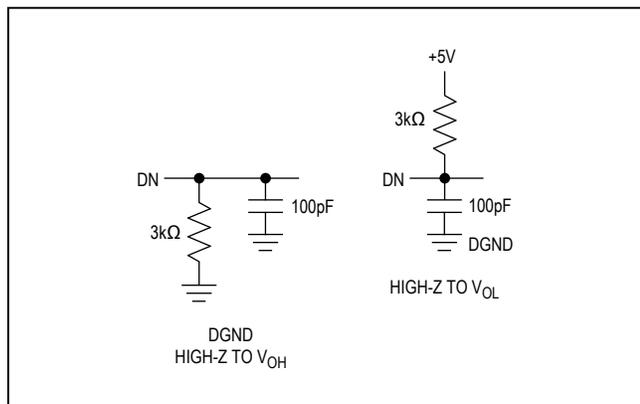

Figure 1. Load Circuits for Data-Access Timing
**TIMING CHARACTERISTICS (Note 3, Figures 1–7)**
**Note 4:**  $t_{DV}$  is the time required for an output to cross +0.8V or +2.4V measured with load circuit of Figure 1.